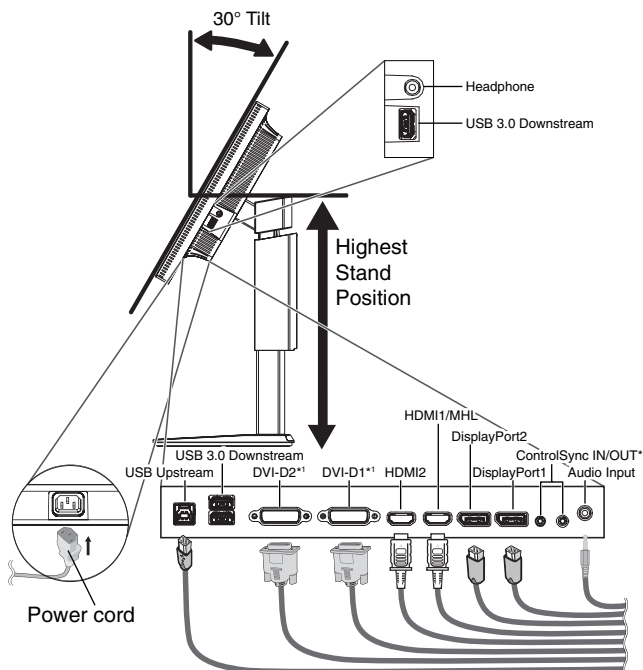
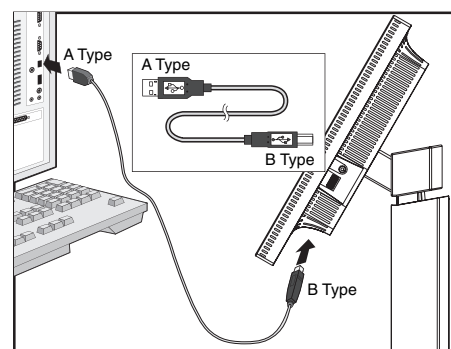

Figure C.1
Figure C.1a
4. Connect all cables to the appropriate connectors (**Figure C.1**). When using the USB cable, connect the B type connector to the USB upstream port on the left back side of the monitor and the A type connector to the downstream port on the computer (**Figure C.1a**). If using the cable from a USB device, plug into one of the downstream ports of the monitor.